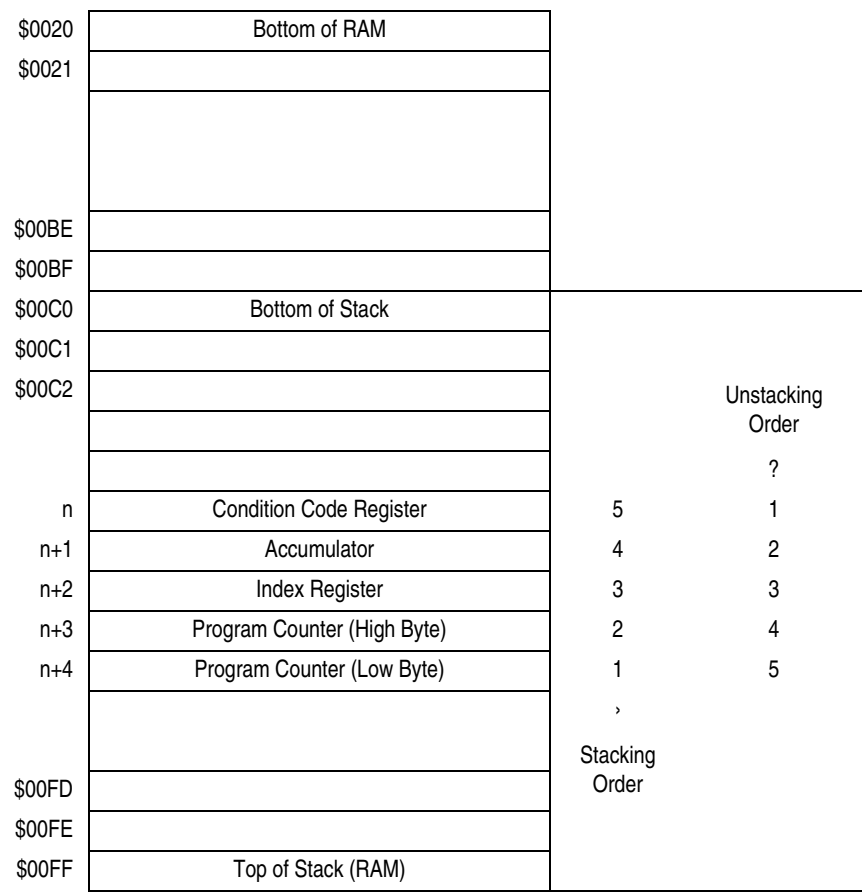
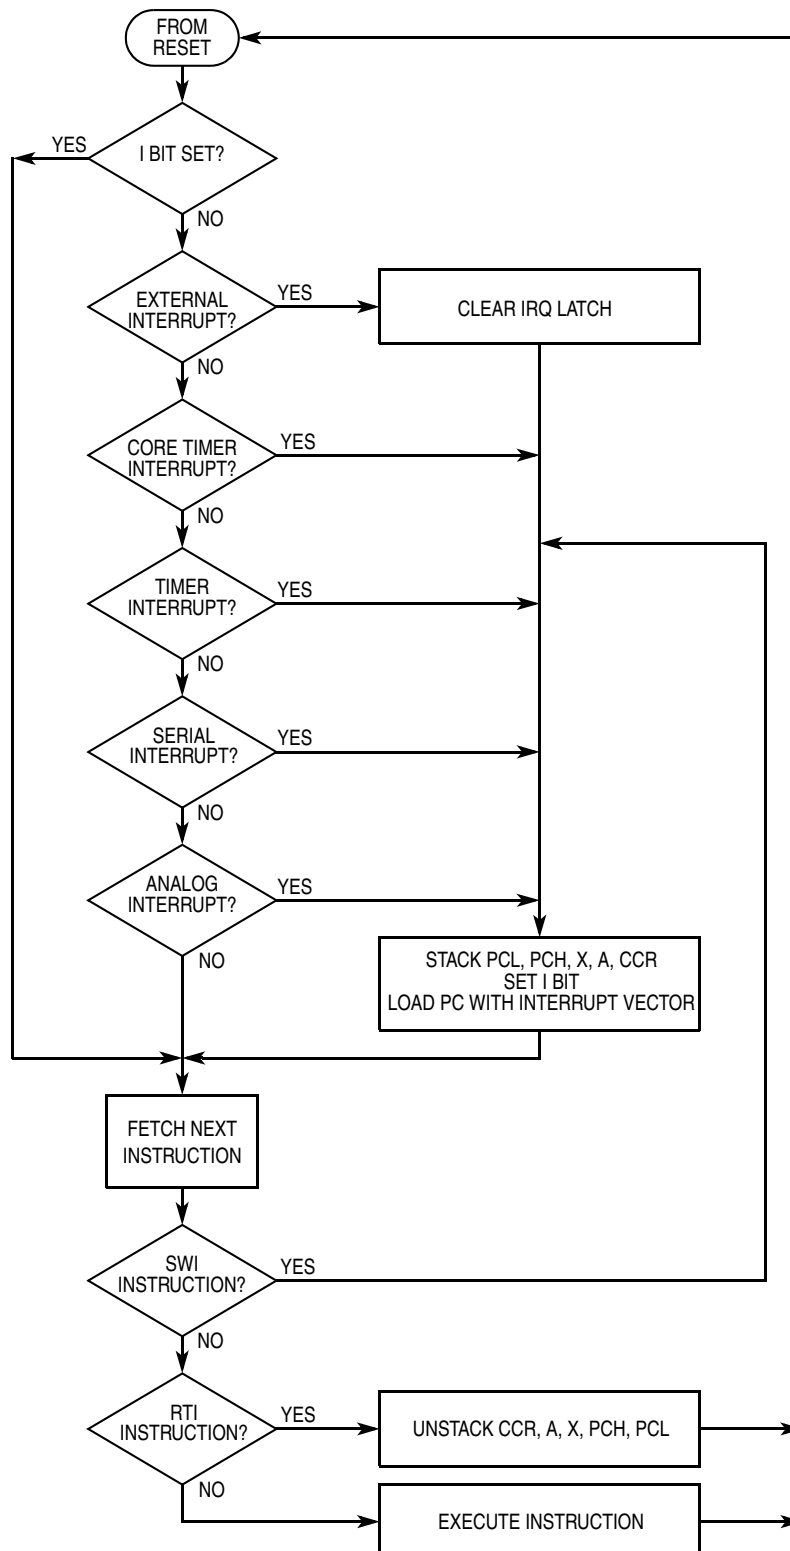

Figure 4-1. Interrupt Stacking Order
Figure 4-2. Interrupt Flowchart
- Stores the CPU registers on the stack in the order shown in Figure 4-1
The return-from-interrupt (RTI) instruction causes the CPU to recover its register contents from the stack as shown in Figure 4-1. The sequence of events caused by an interrupt is shown in the flowchart in Figure 4-2.